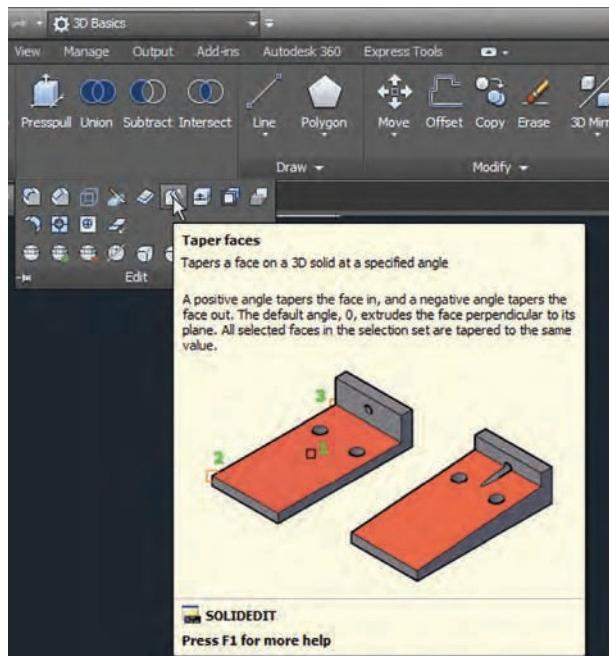

**FIGURE 1.11** Ribbon modes
2. Click the Minimize Ribbon button and observe that the full ribbon changes to display tabs and panel buttons (see Figure 1.11). Hover the cursor over the panel buttons. The buttons expand to reveal all the tools shown on the full ribbon.